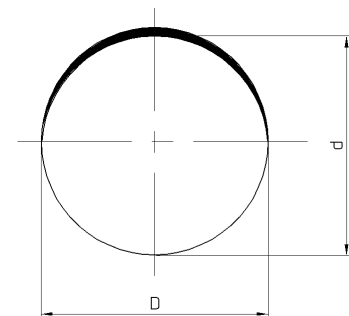

Figure 6-19; Typical wear pattern
2. The image of wear often shows that it has performed only at one side of the piston rod (Figure 6-19)